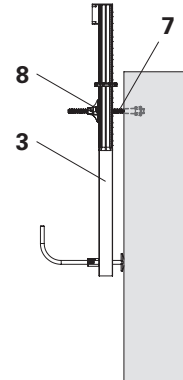

Fig. A3.03
- Place the Slab Stopend Bar 105 (3) with the specified hole on Tie Rod B 15, L = 0.30 m (7) and secure with Wingnut Counterplate DW 15 (8). (Fig. A3.03)